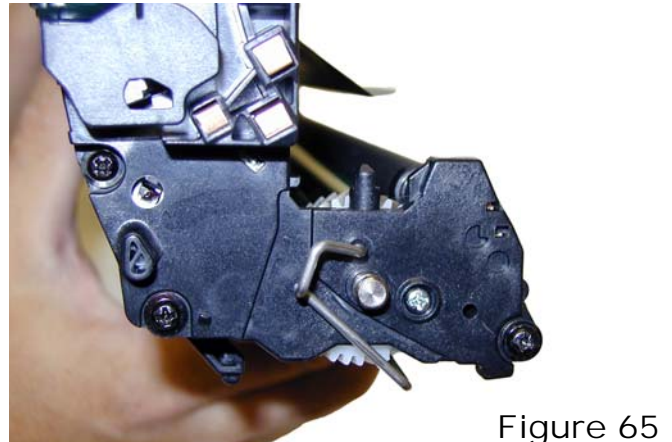

Figure 65
42) Install the left side of the drum cover bar. Test the cover with the arm on the right side to make sure it works. See **Figures 65 & 66**